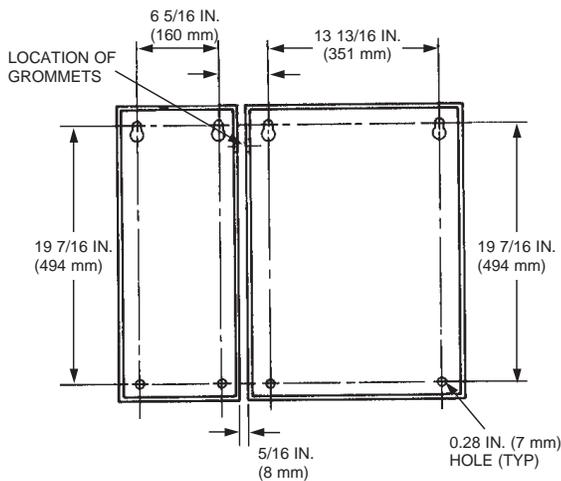

FIGURE 5-3
- d. When mounting a 6 gallon manifolded system (or a 6 gallon individual piped system) it is critical that each mounting box is located as shown in Figure 5-3. There must be a 5/16 in. (7.9 mm) space between each box. Less than 5/16 in. (7.9 mm) will cause interference with the covers, and more than 5/16 in. (7.9 mm) will cause a gap between the two hose grommets which will expose the hose to possible tampering or damage.